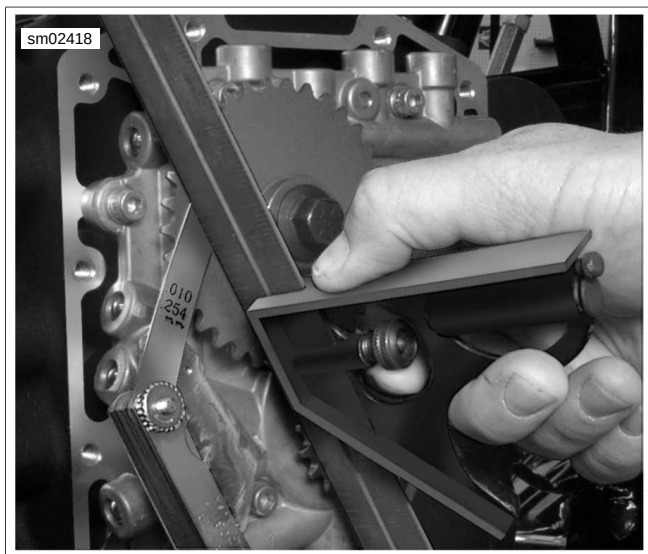

Figure 3-114. Check Alignment of Crank and Rear Cam Sprocket Faces
- See Figure 3-114. Place a straightedge across the sprocket faces. Attempt to insert a 0.010 in. (0.254 mm) feeler gauge between the straightedge and each sprocket face. If the feeler gauge will not fit at either location, sprocket offset is within specification. Remove both sprockets and discard temporary small washer.